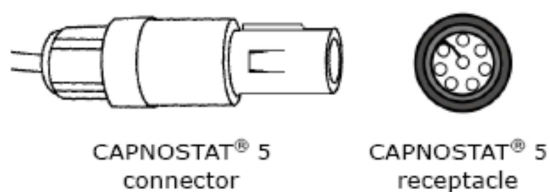

Figure 1
1. Insert the CAPNOSTAT 5 CO2 Sensor connector into the receptacle of the host monitor as shown in Figure 1.